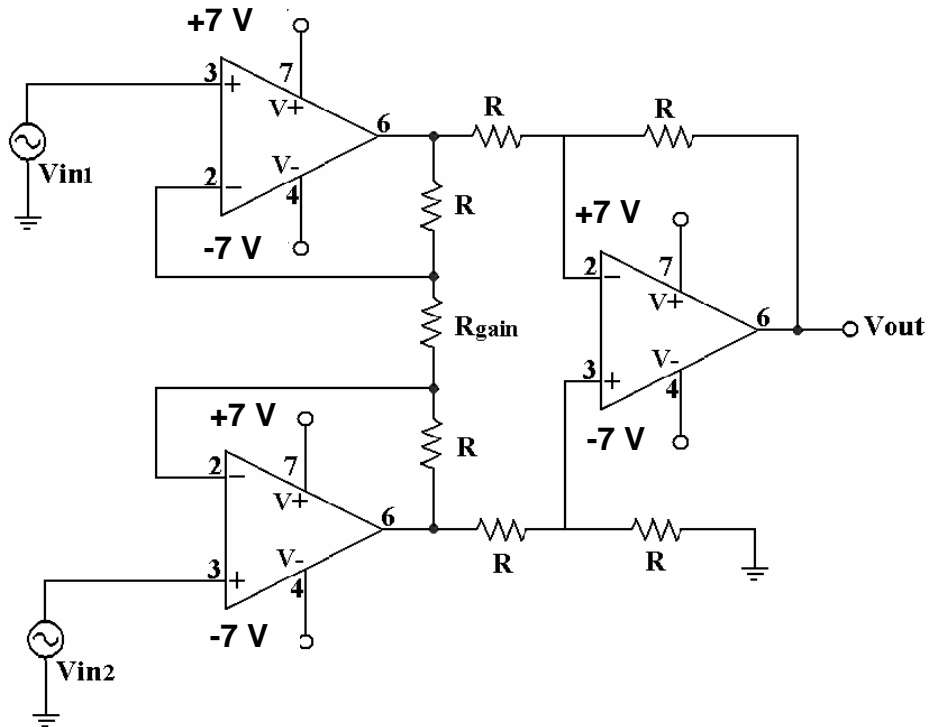

Fig. 3. Typical instrumentation amplifier circuit
Instrumentation amplifier: The instrumentation amplifier is a differential amplifier that has high input impedance and the capability of gain adjustment through the variation of a single resistor. A commonly used instrumentation amplifier is shown in Fig. 3.
6. For the instrumentation amplifier in Fig. 3 with power supplies ± 7 V, choose R to have $V_{out} = 2(V_{in2} - V_{in1})$ if $R_{gain} = 20\text{ k}\Omega$.